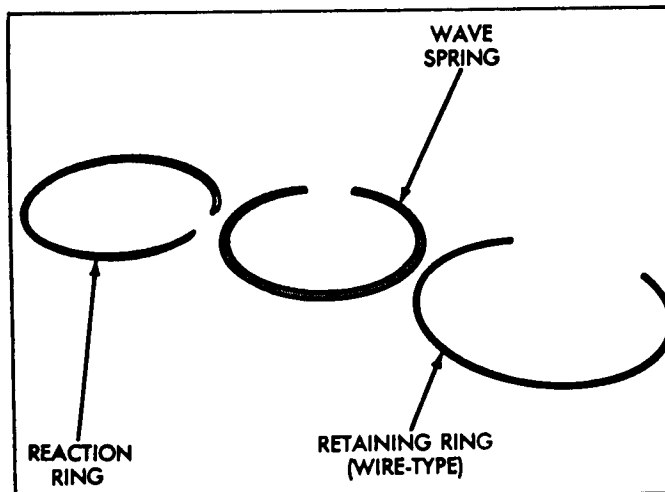

Figure 29
42. At this point, you should have three snap rings left, one FLAT snap ring, one WAVED snap ring, and one ROUND (Wire) snap ring, shown in Figure 29.